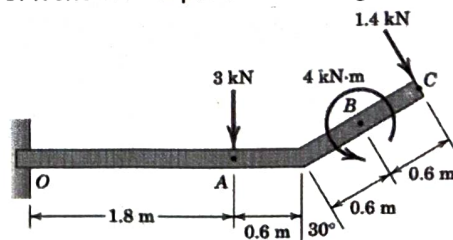

Fig 3 (b)
- Q 3(b) The uniform beam (Fig 3 (b)) has a mass of 50 kg per meter of length. Compute the reactions at the support [5 Marks]